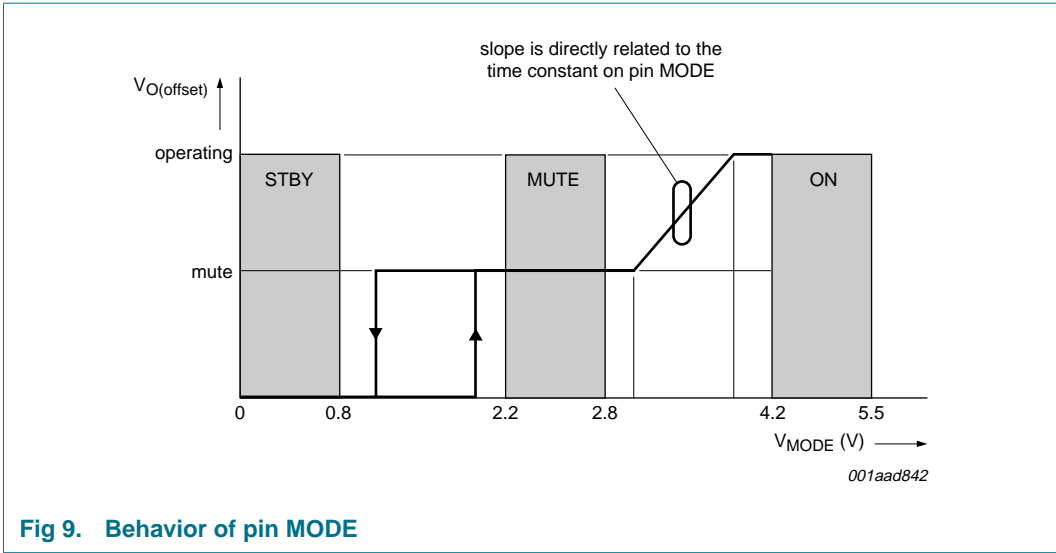

Fig 9. Behavior of pin MODE
- [3] The transition between Standby and Mute mode contains hysteresis, while the slope of the transition between Mute and Operating mode is determined by the time constant on pin MODE (see Figure 9).